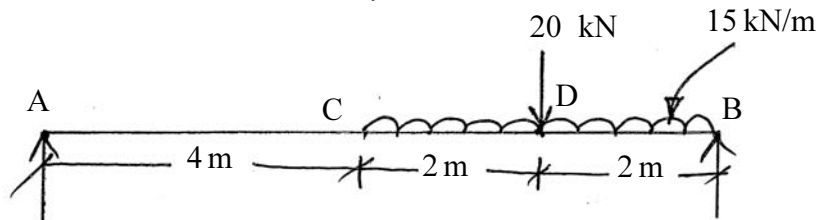

Figure 6
- a) Find the slope and deflection at the centre of a simply supported beam as shown in figure 6 take $EI = 4000 \text{ kN.m}^2$. Use Macaulay's method. 8